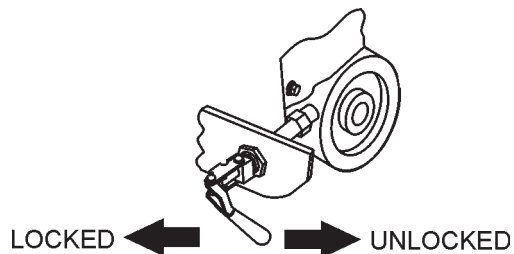

Figure 30. Wheel Clamp
1. Ensure the wheel clamps are in the **LOCKED** position. (Figure 30).